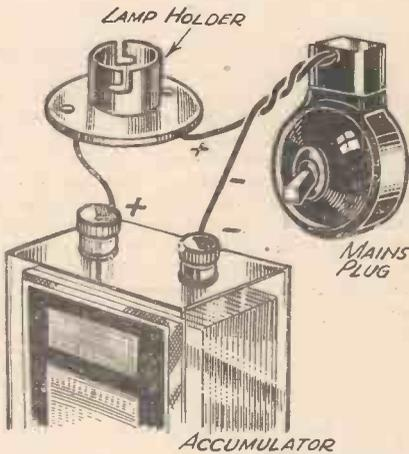

Fig. 1.—Showing the simple arrangement of a trickle charger for use on D.C. mains.
The very simplest form of trickle charger is that for use on a D.C. supply, since this does not necessarily involve the use of any wireless components at all, but only of an electric lamp, lamp-holder, and a length of flex. The arrangement is shown in Fig. 1, where it will be seen that the electric lamp is wired in series with one lead to the accumulator from the supply socket. The purpose of the lamp is to limit the current passing through the accumulator to the correct figure for charging purposes. Thus, by changing the lamp for others of different wattage rating the charging current can be varied as desired. This is a point which is
D.C., which is that the polarity of the supply to the accumulator must be correct and as shown in Fig. 1. There are different methods of finding the polarity, but the simplest of all is to dip the two leads to be connected to the accumulator terminals into a glass of salty water. Keep the leads well apart, grip the insulated flex with a strip of rubber or other good insulating material and observe the bubbles given off